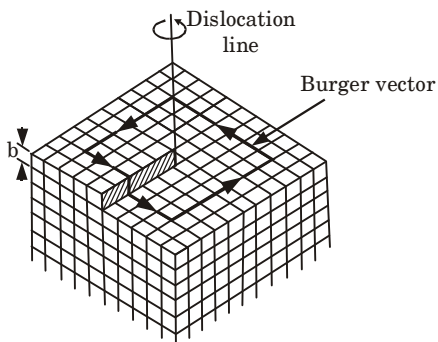

Fig. 5. Screw dislocations with burger vector.
1. The formation of a screw dislocation is shown in (Fig. 5).